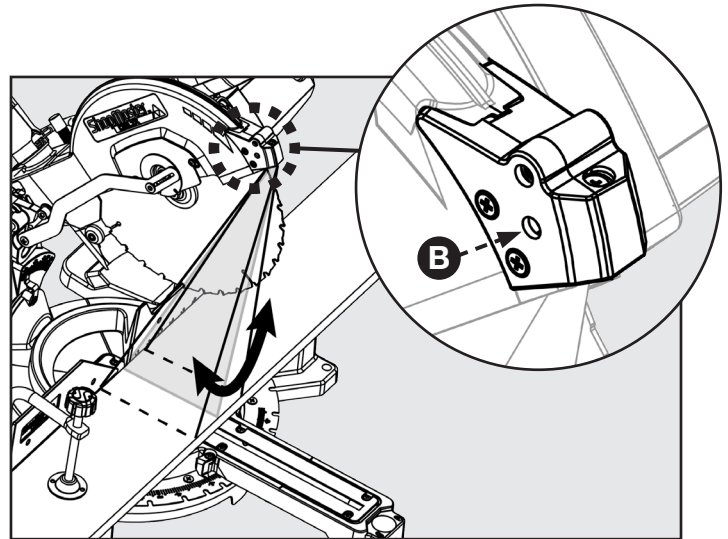

FIGURE 24
If you notice the laser line does not remain parallel to the blade as the saw head is lowered to make a cut refer to Figure 24 and follow these instructions: using a Phillips head screwdriver turn the screw (B) to adjust the vertical angle of the laser.